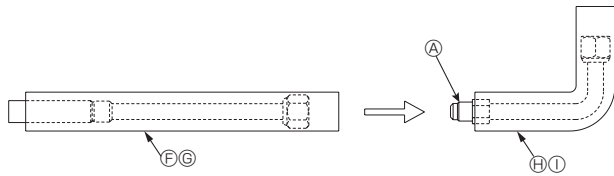
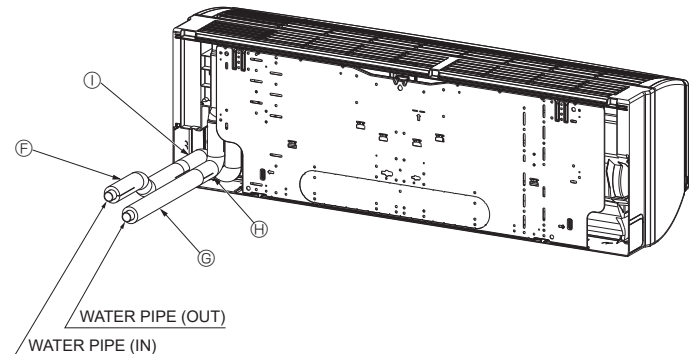
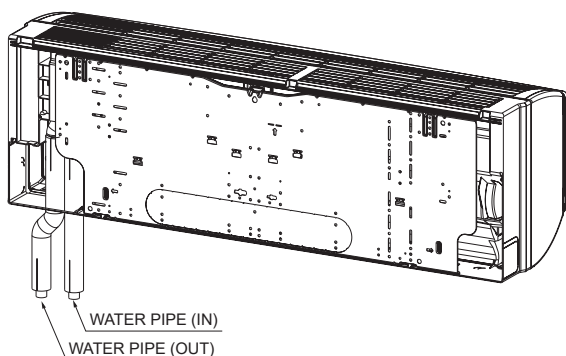

Fig. 3-7
Fig. 3-12
Fig. 3-14
3.3.2. How to install connecting pipes ⑥ and ⑦ (from Fig. 3-7 to Fig. 3-14)
- (1) For right rear piping work, connect the pipe ⑥ to the pipe ① and the pipe ⑦ to the pipe ②. (Fig. 3-7, Fig. 3-12)
- (7) Attach insulation materials ⑧ to the cut parts of the pipe covers to insulate them. (Fig. 3-12)